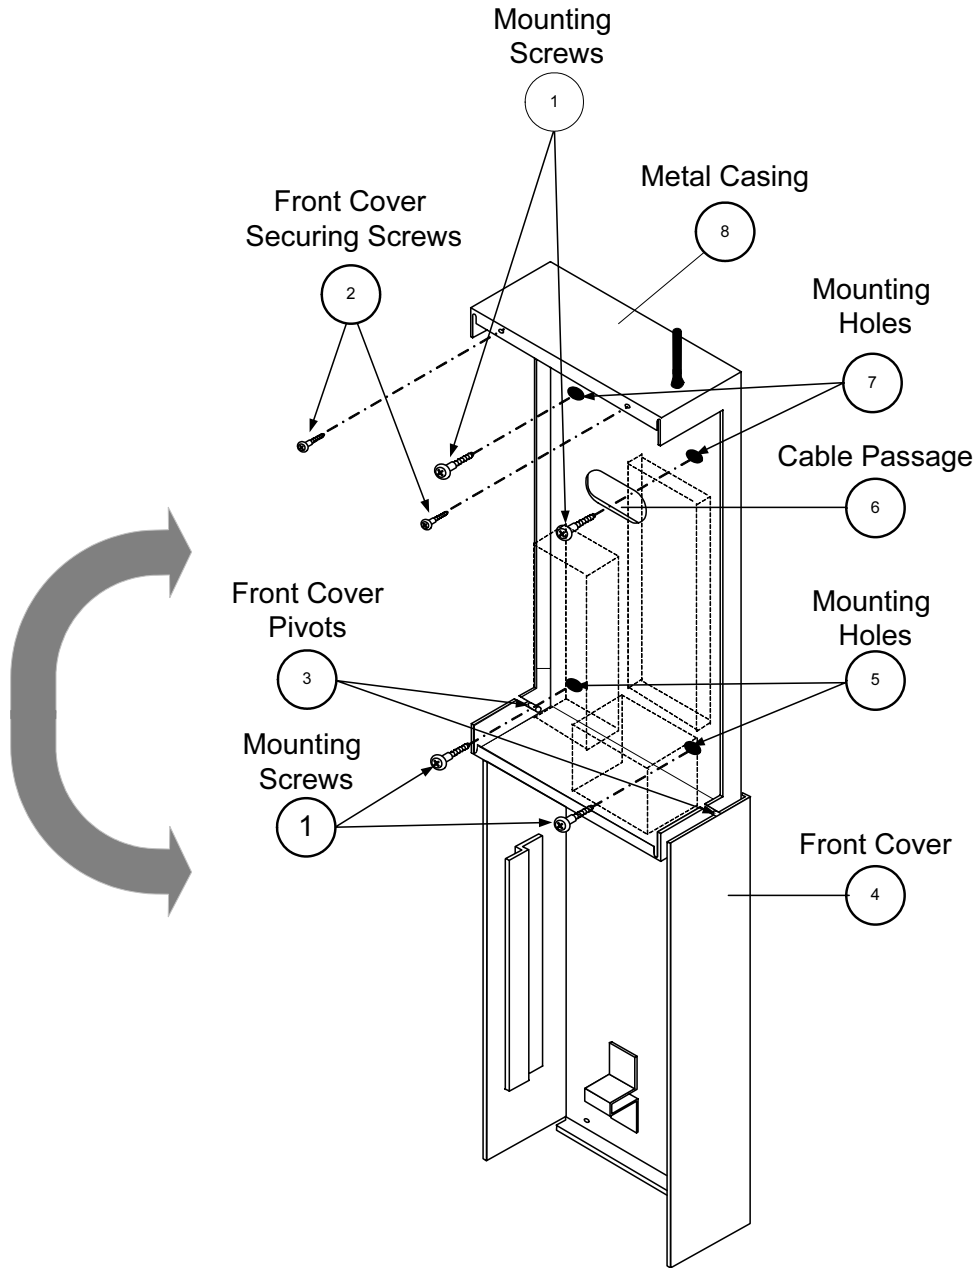

Figure 4. GSM/GPRS module – Installation
1. Remove the two screws securing the GSM/GPRS BUS Module front cover (2, Figure 4).
3. Use the metal casing as a template for marking the installation holes (mark through the mounting holes, see 5 and 7, Figure 4).
5. Insert external cables (GND, power, and phone lines) through the cable passage (6, Figure 4).
6. Align the GSM/GPRS BUS Module with the mounting holes and fasten it firmly to the wall with all four supplied screws (1, Figure 4).
13. Install the front cover in its place (in a reverse sequence of the removal (see Figure 4).